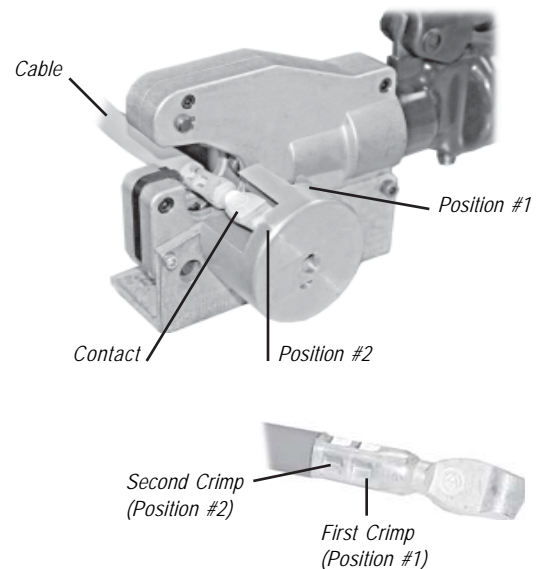

Figure 2
- 1) Rotate turret to select proper contact locator position. Use position #1 for SB type contacts. (ex. position #1 in Figure 2).
- 2) Insert contact, making sure that the contact is against the back surface of the locator and the flat surface of the SB type contacts rests against the bottom surface of the locator. (Figure 2)
- 4) SB type contacts should be crimped twice. Rotate the locator to position #2 and repeat steps 2 and 3, (ex. position #2 in Figure 2)